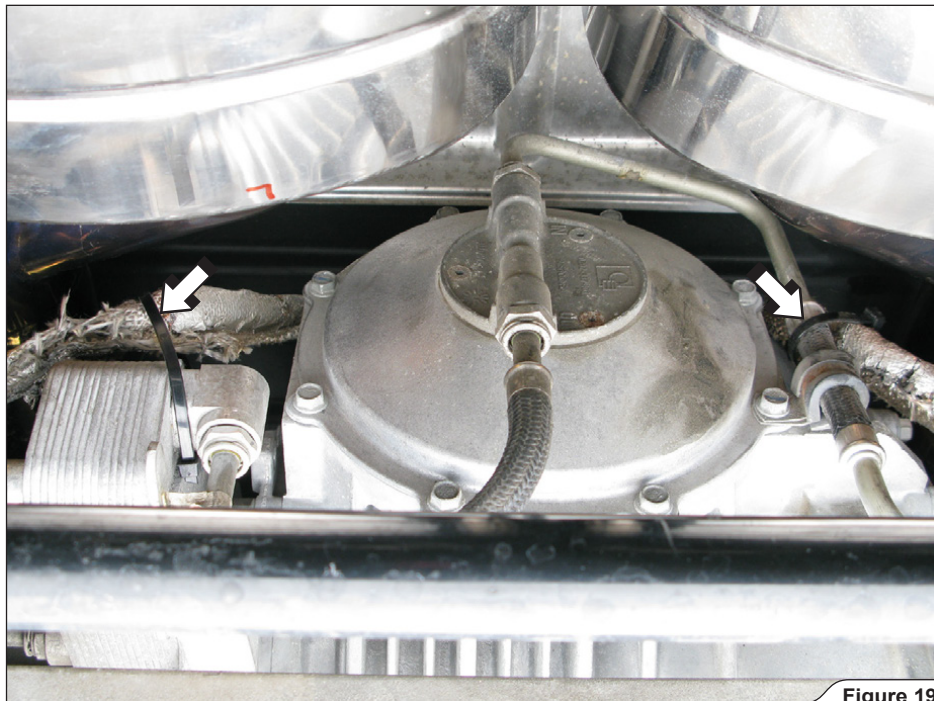

Figure 19
8. **For Slip-On and Evolution:** secure the hand brake cables with tie wraps, as shown (Figure 19).